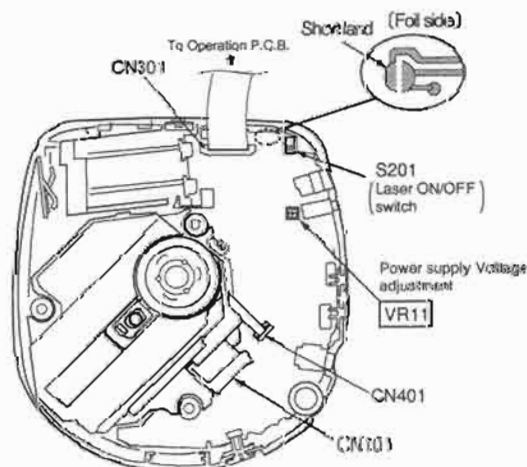

Fig. 1
Short-circuit the lands of the laser ON/OFF switch (S201) by soldering them. It turns "ON" position. (Refer to below Fig. 1 or printed circuit board and wiring connection diagram for short land location on page 34.)
2. Take care to connect CN101, CN301 and CN401, as shown in Fig.1.
4. Adjust **VR11** on the main P.C.B. at 2.70 ± 0.02 V, as shown in Fig. 1.